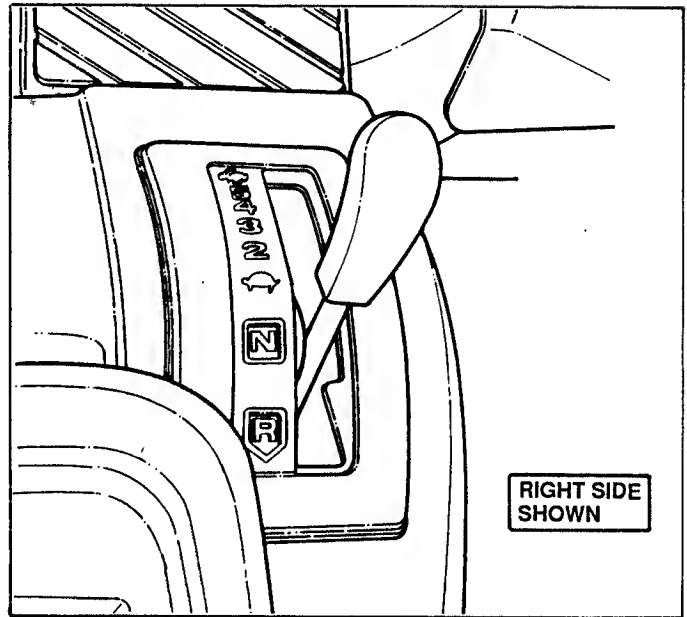

FIGURE 6
1. With CLUTCH/BRAKE pedal depressed, shift SPEED SELECTOR to 1 for forward or R for reverse and release pedal. (For comfort and safety, always shift back to 1 before starting forward). See Figure 6.